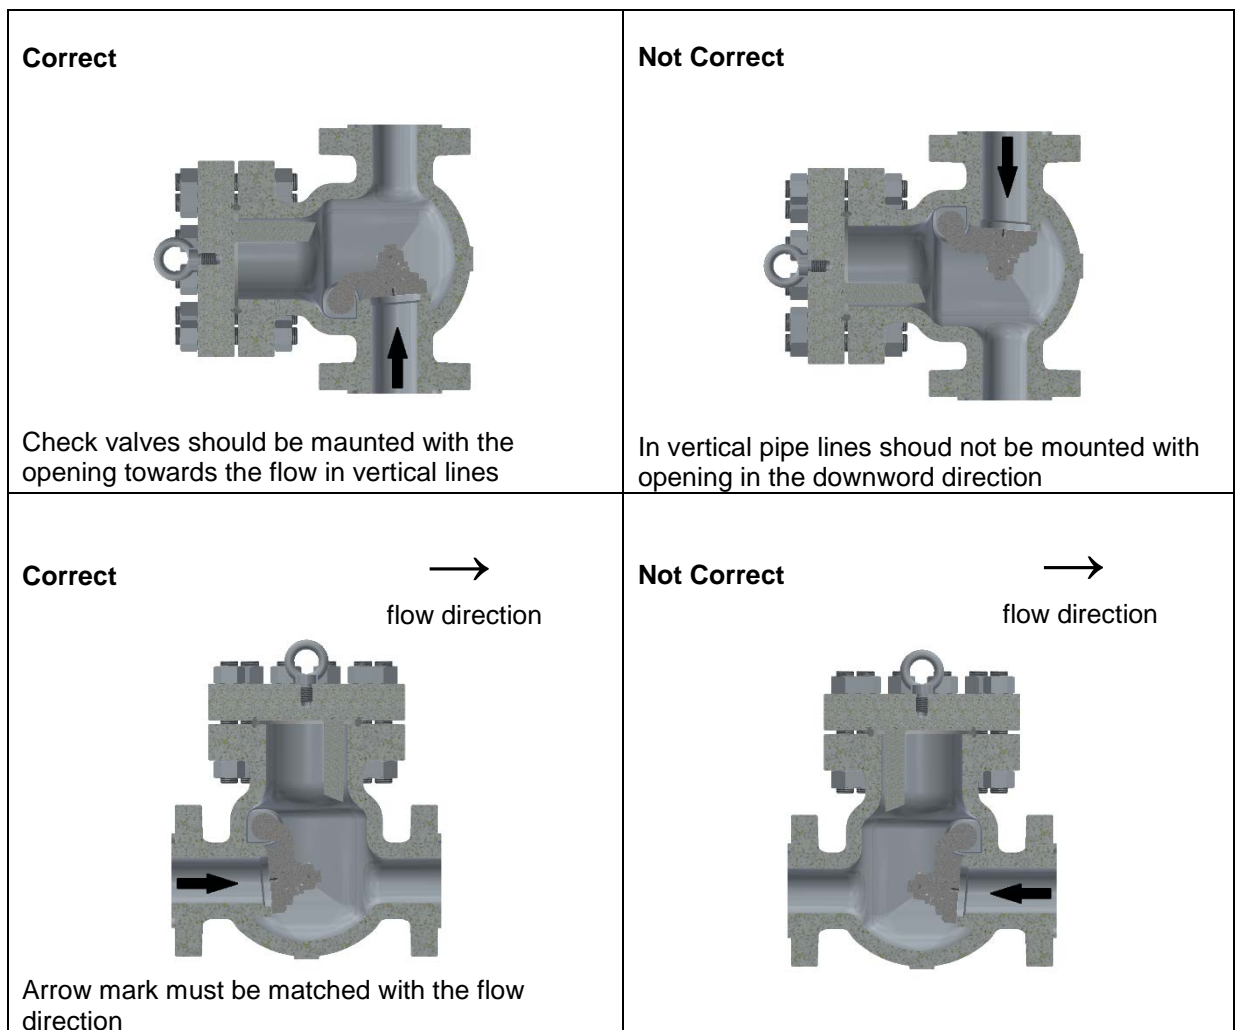

Fig. 3 Allowed mounting position
- Mounting position must be in accordance with the instructions in this guide (Fig. 3)